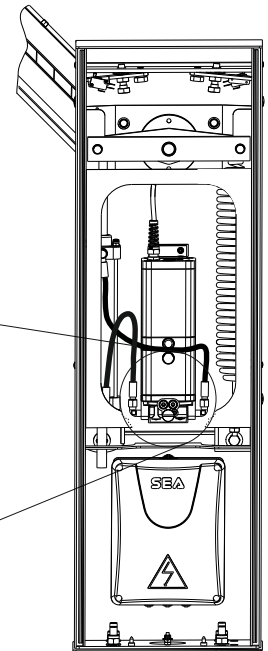

Fig.21
N.B.: Before executing this operation release the motor-reducer as shown in Fig.21.